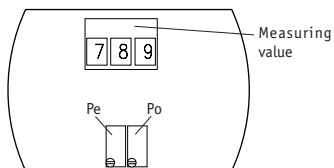

Fig. 6: Electrical connection
- Connect strands to the clamps (fig. 6).
The instrument transformer is preset to standard values 4mA for potentiometer's start position (Po) and 20mA for end position (Pe). Via two trimmpotentiometer's Po and Pe (see fig. 6) these values can be adjusted to the application's actual start and end position: